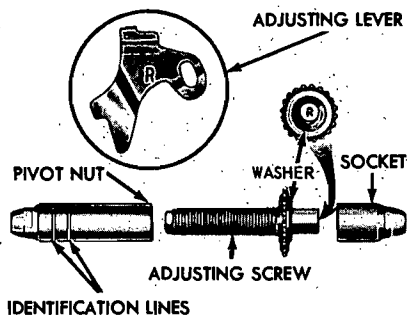

FIG. 16—Adjusting Screw and Lever Identification
Interchanging the brake shoe adjusting screw assemblies from one side of the vehicle to the other would cause the brake shoes to retract rather than expand each time the automatic adjusting mechanism operated. To prevent installation on the wrong side of the vehicle, the socket end of the adjusting screw is stamped with an R or L (Fig. 16). The adjusting pivot nuts can be distinguished by the number of grooves machined around the body of the nut. Two grooves on the nut indicate a right thread; one groove indicates a left thread.
11. Hook the cable hook into the hole in the adjusting lever. The adjusting levers are stamped with an R or L to indicate their installation on right or left brake assembly (Fig. 16).